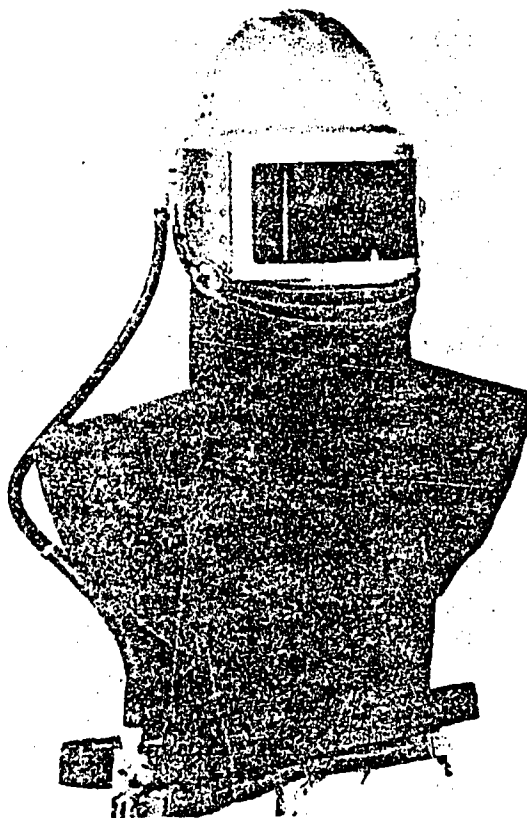
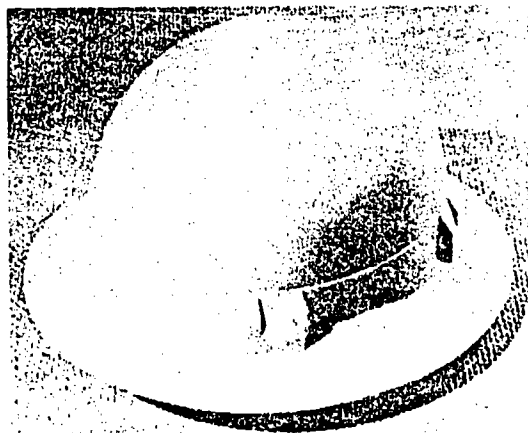

Figure 4. Abrasive Blasting Helmet.
Figure 7. Hard Hat.
d. Abrasive blasting helmets for use when blast cleaning surfaces to be painted. (See Figure 4.)
1-13. *Protective Clothing.* Personnel should wear clean clothing covering them as much as possible to avoid skin contact with painting or cleaning materials. Cuffs, tears or rips, loose pockets, loose ties and jewelry should be avoided since they are potential causes of accidents. Safety helmets should be worn when using abrasive blasting media. (See Figure 4.) Hard hats and steel toed safety shoes should be worn wherever there is any possibility of danger from falling objects. Shoes should have non-skid rubber soles when working in enclosed spaces or where flammable vapors may be present. Acid-proof clothing should be worn when handling acid cleaners. Use acid-proof air-supplied suits when using acid cleaning materials in enclosed areas. (See Figures 7 thru 10.)